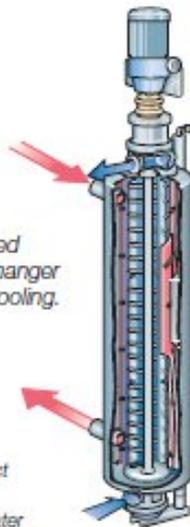

Fig. 9.14 Scraped surface heat exchanger for heating and cooling.
- Scraped surface heat exchangers, Figure 9.14